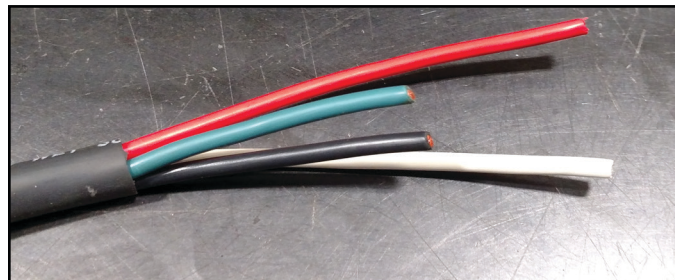

Figure 1
STEP 1: Cut back outer jacket about 2 inches, Caution do not nick jacket of the inner wire. Off set/stagger the inner wires, and strip ends. **(See Figure 1)**